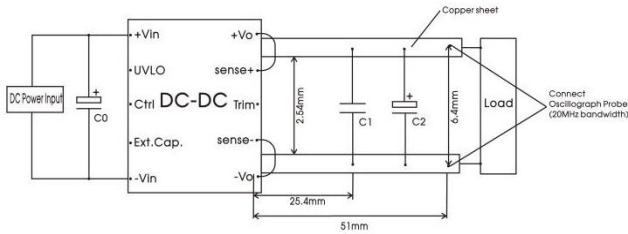

Fig.3
③The "Tip and barrel method" is used for ripple and noise test, for details please refer to Fig.3.
④When the altitude is above 2000m, the product surface max. temperature must be below 105°C.
All the DC-DC converters of this series are tested before delivery using the recommended circuit shown in Fig. 3.